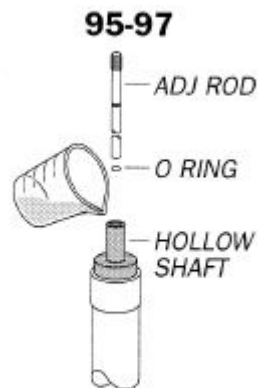

Figure 4
- Fill hollow shaft with oil, then thread in adjuster, spinning o-ring through the threads without damaging **Figure 4**